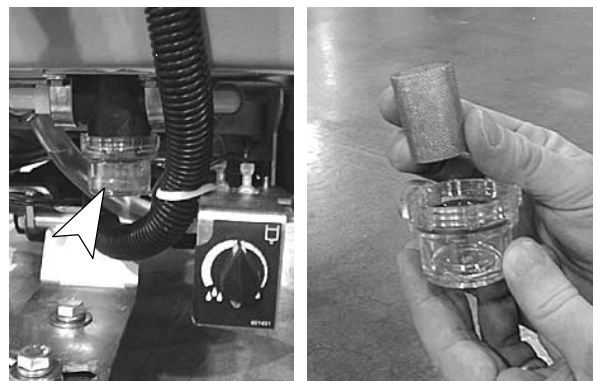

FIG. 28
- Remove inline strainer filter and rinse out. Before removing filter, be certain solution tank is empty. Filter is located under machine at rear (Figure 28).